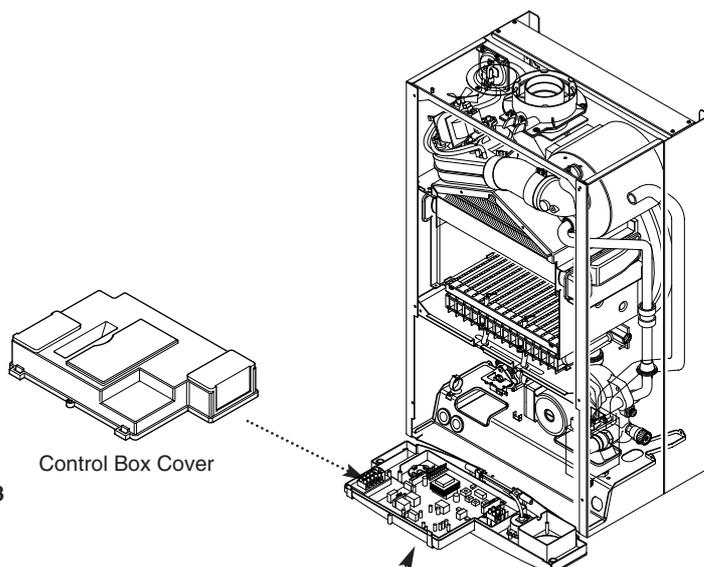

Fig. 58
12.18 Main PCB (Fig. 58)
2. Completely undo the screws securing the control box cover and release the cover retaining barbs from their slots. Disengage the rear of the cover from the control box hinge pin (Fig. 58).